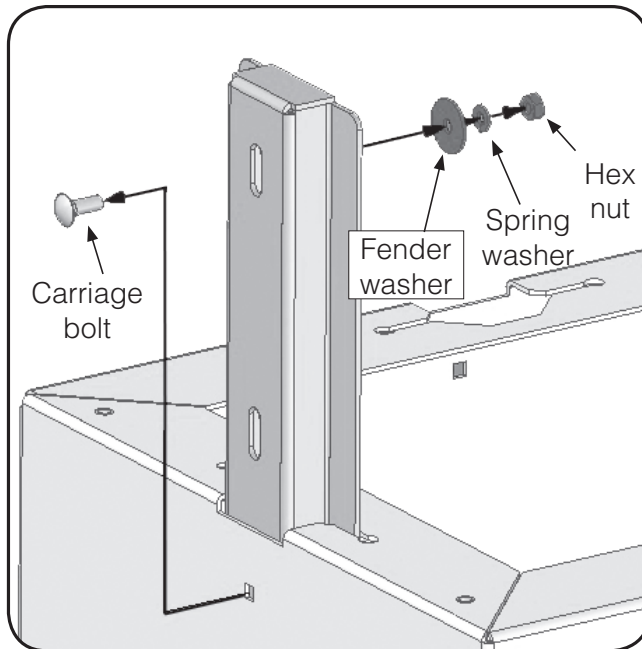

Figure 6.3
6. Secure the pedestal to the stakes with the supplied carriage bolts, fender washers, spring washers and hex nuts as shown in Figure 6.3. Torque to 65 in-lb (7 N-m). (4 sets are provided, 2 sets for each stake).